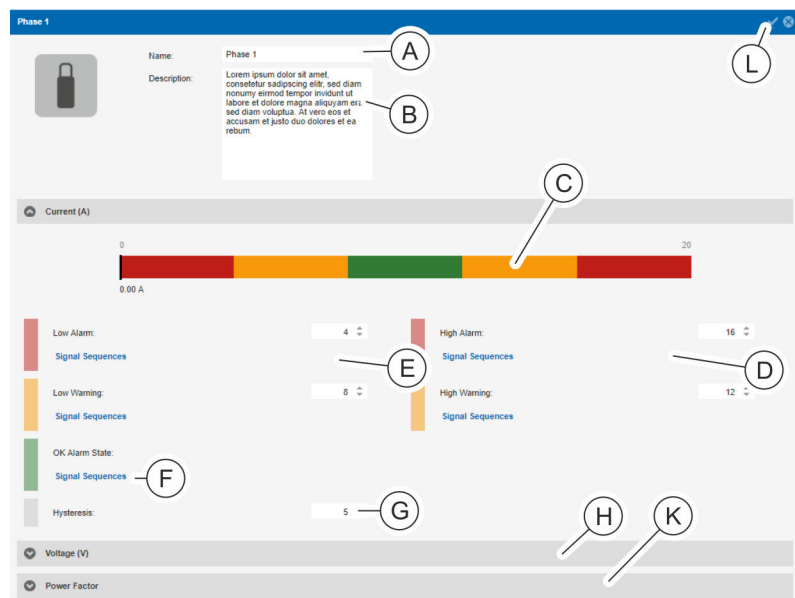

Fig. 125: Detail view
4. ➤ If necessary, adjust the name of the phase (Fig. 125/A) in the detail view and, if necessary, add a description (Fig. 125/B).
5. ➤ In the “Current (A)” area, enter a value for “High Warning” and “High Alarm” (Fig. 125/Ⓐ).
⇒ The threshold values are displayed in colour (Fig. 125/Ⓒ).
8. ➤ In the “Current (A)” area, allocate a signal sequence to the “OK Alarm State” parameter (Fig. 125/Ⓒ) if necessary (analogous to steps 5 and 6).
9. ➤ In the “Current (A)” area, enter a value for “Low Alarm”, “Low Warning” and “Hysteresis” (Fig. 125/Ⓒ and Ⓓ) and allocate a signal sequence (analogous to steps 5 to 7).
10. ➤ Repeat steps 5 to 9 for the “Voltage” range to set the voltage range (Fig. 125/Ⓒ).
11. ➤ Repeat steps 8 to 9 for the “Power Factor” range to set the power factor (Fig. 125/Ⓒ).
12. ➤ Confirm the selection by clicking the “Save” (Fig. 125/Ⓒ) button.